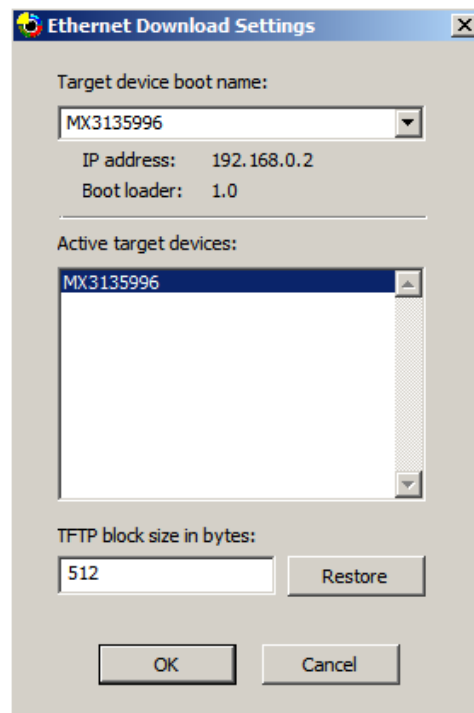

Figure 6-5 Ethernet Download Settings
11. When the EBOOT program displays the BOOTME messages, the 3-Stack board device should be displayed in the Ethernet Download Settings dialog (Figure 6-5). Double-click the active device, and then click **OK**.